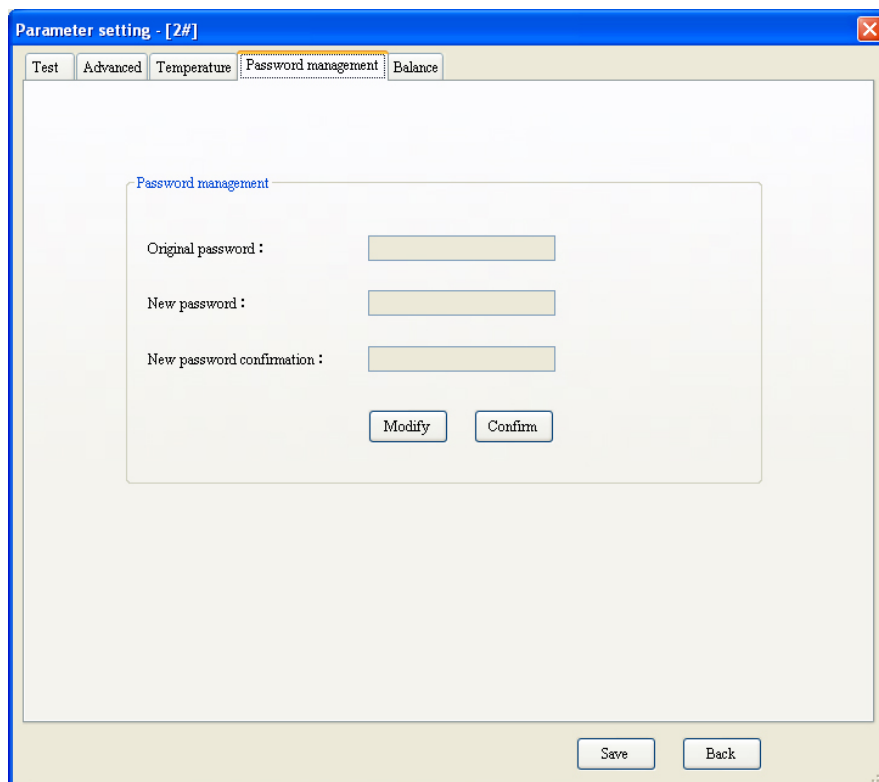

Fig.4-2-4
4. Password management tabs as shown in Fig.4-2-4: